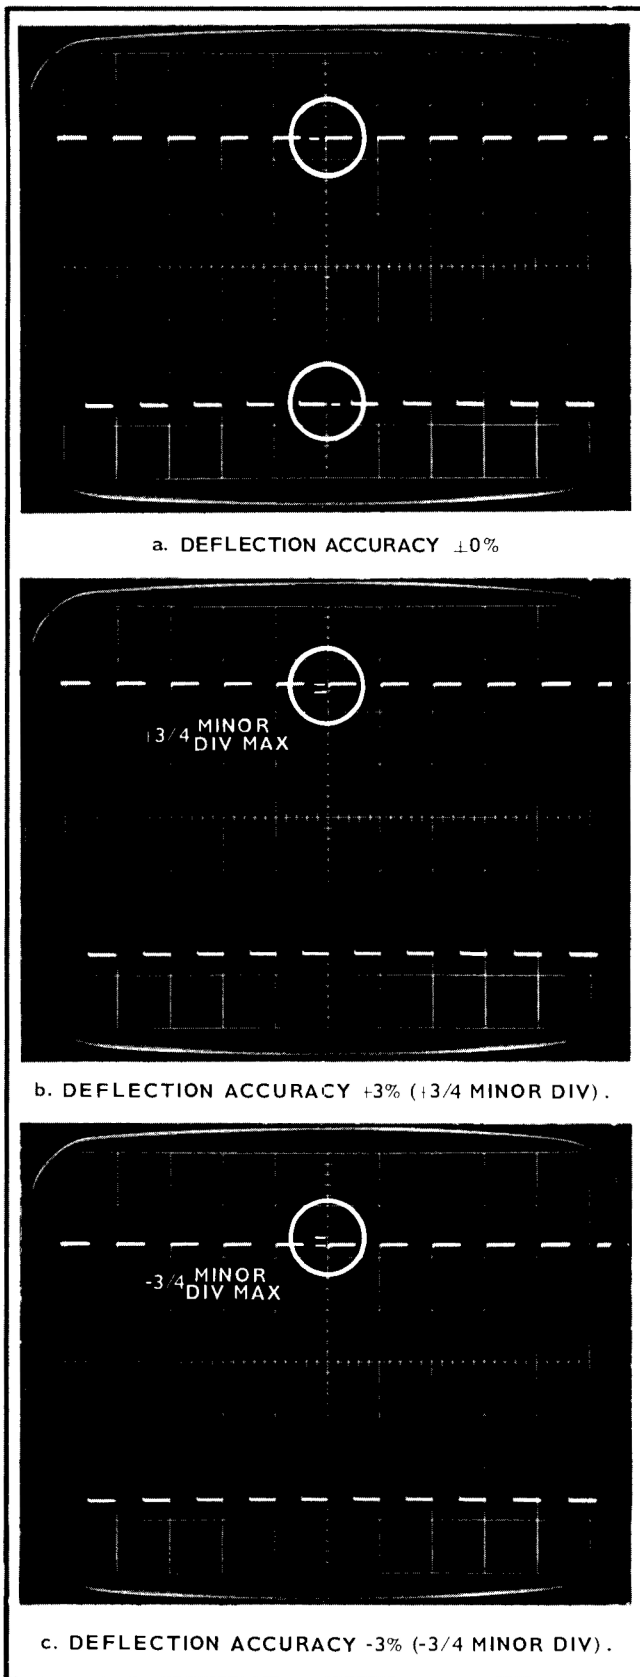

Fig. 6-9. Deflection accuracy limits between 10 mV/DIV and 50 V/DIV when VOLTS/DIV has the number 1 or 2 in it.
b. Use Table 6-2 and Figures 6-9, 6-10 and 6-11 to determine the deflection accuracy at each setting of the MANUAL VOLTS/DIV switch between 10 mV/DIV and 50 V/DIV. If any one switch setting causes an out-of-tolerance display, record the amount of error, continue to 50/DIV, then return to 10 mV/DIV and adjust the CAL control. Adjust the CAL control to reduce the one error, but not far enough to give any other switch setting an opposite out-of-tolerance error. The CAL control is correctly adjusted when all ranges are within 3%, and 10 mV/DIV is not necessarily at zero per cent error. If one switch position causes a plus error greater than +3% and another causes a minus error greater than -3%, record the error of all switch settings in order to determine which attenuator requires repair.